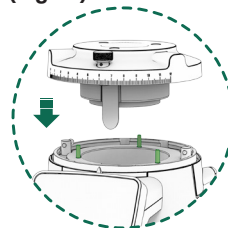

Fig. 15
**12.3.10.** When reassembling the grind regulator, face the silicon curtain in front and the three holes with three pins in the grind chamber (**Fig. 15**).